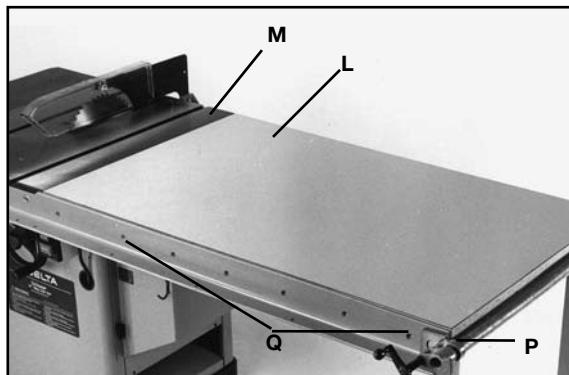
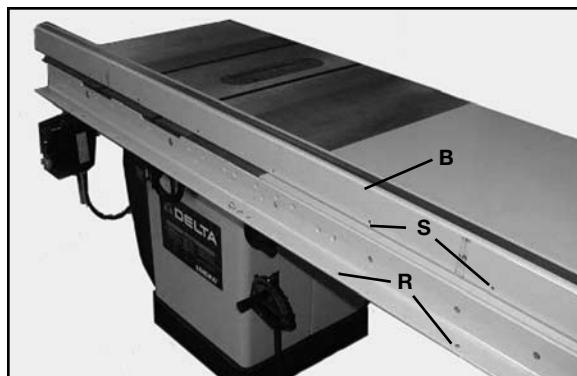

FIG. 12
FIG. 14
9. Place table assembly (L) Fig. 12, in position between the two rails, as shown. Make sure end of table is flush against saw table (M). Using a straight edge make sure table (L) is in the same plane and level with saw table (M). Lightly tap up or down and adjust leg leveling screws. When you are certain table (L) is level and in the same plane with saw table (M) tighten bar clamp (P) to hold everything in position. Then drill 1/4" holes through the front and rear of the extension table using holes (Q) provided in rails as a template. NOTE: Number of holes (Q) in the front and rear rails will vary depending on the length of the rails you purchased.
10. After the holes have been drilled in the edge of the front and rear extension table board, fasten both front and rear rail to table using the 1/4-20 x 1-1/2" flat head Phillips screws, 1-1/4" O.D. flat washers and hex nuts (R).
11. Lay the guide tube (B) Fig. 14, on the saw table as shown, and line up the threaded holes (S) on the bottom of guide tube with the through holes (T) on the front rail. **NOTE: The guide tube should extend past the rail 6" on each end.**
12. Position the guide tube (B) on the front rail and fasten the guide tube to the rail using the 1/4-20 x 1/2" long hex head screws and lock washers. NOTE: Where there are two holes 2-1/2" apart, use only one of the two holes.